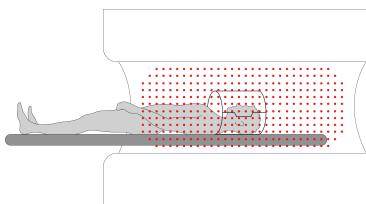
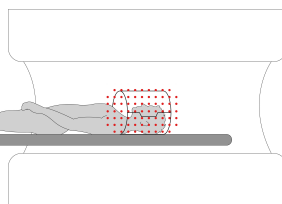

Figure 5.1: Body RF coil
Figure 5.2: Local RF coil
- ▶ Receive only head coils force the body coil as the RF-transmitter and do not provide the same safety margins as transmit / receive head coils. Therefore restrictions apply to receive only head coils: upper limb EMG, thoracic ECG, and acceleration measurements are not permitted. See figure Figure 5.1 and Figure 5.2 for further information.
Schematic representation of an RF field in a body transmit coil Figure 5.1 and a head transmit coil Figure 5.2. If a body coil is used as the
RF transmitter coil, the equipment used for recording the EEG and/or peripheral physiology (electrode cap, sensors, cables, amplifier and power supply) are exposed to a considerably stronger and more widespread RF field, Figure 5.1. If a local (head) transmit coil is used, Figure 5.2, only the electrodes and cables are exposed to the RF field. The choice of RF transmitter coil is therefore a crucial factor when setting up a simultaneous EEG-fMRI study.